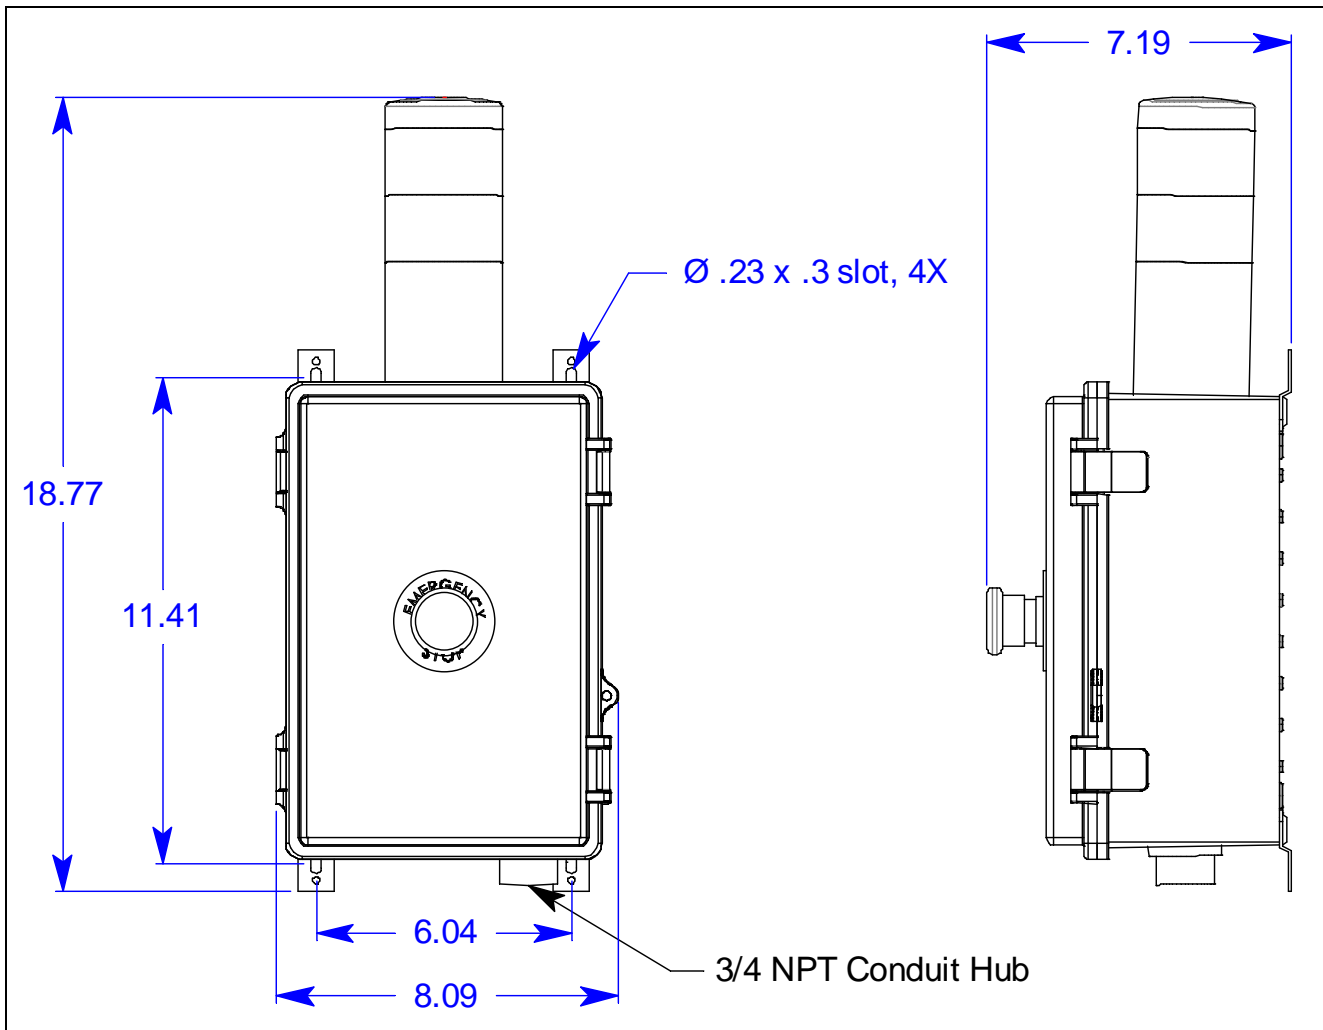

Figure 3: Outline & Mounting Dimensions
2. The 82-5221 is shipped with the mounting feet positioned under the housing. Loosen the screws that secure the feet to the housing, rotate the feet to their mounting position as shown in Figure 3, then tighten the screws.